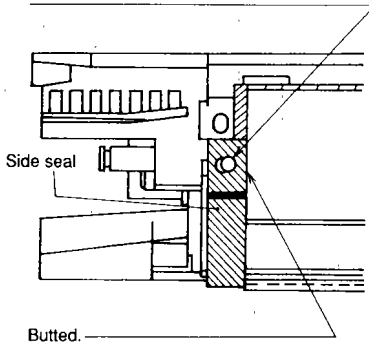

Figure 4-74
- 2) Attach the side seal at the position shown in Figure 4-74.